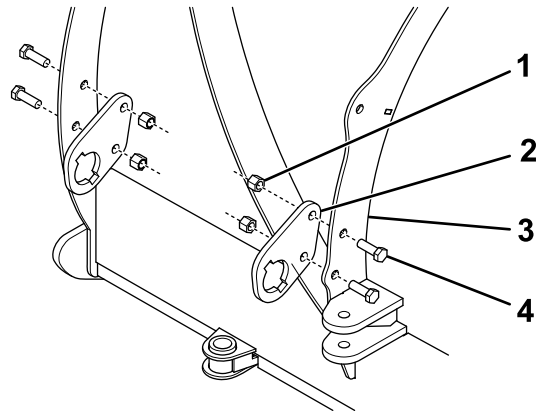

Figure 5
9. Loosely attach the rib brackets to the plow using 4 bolts (1/2 inch) and locknuts (Figure 5).